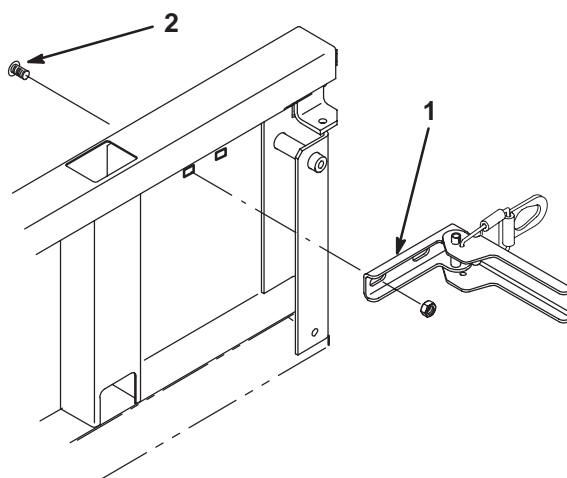

Figure 5
11. Loosely mount a tailgate latch assembly to each side panel with (2) 5/16–18 x 5/8" lg. carriage bolts and flange locknuts as shown in figure 5.